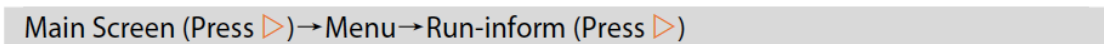

Figure 2 Access running information
Step 2: Go to running information to check the **DC parameters** (Figure 2).